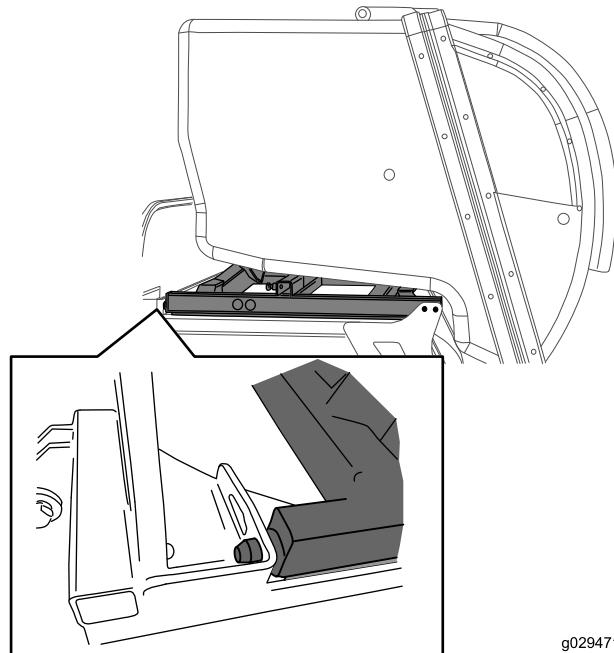

Figure 8
3. On the left side of the machine, loosen the clamp on the vent-line hose and slide the hose down the metal tube (Figure 8). Tighten the clamp.
- Slide the high-lift-collection assembly forward so that the tabs on the front of the cooler are flush with the plate on the carrier frame (Figure 7) and the tabs in the steel frame of the high-lift-collection assembly sit inside the holes on the carrier frame as shown in Figure 8.